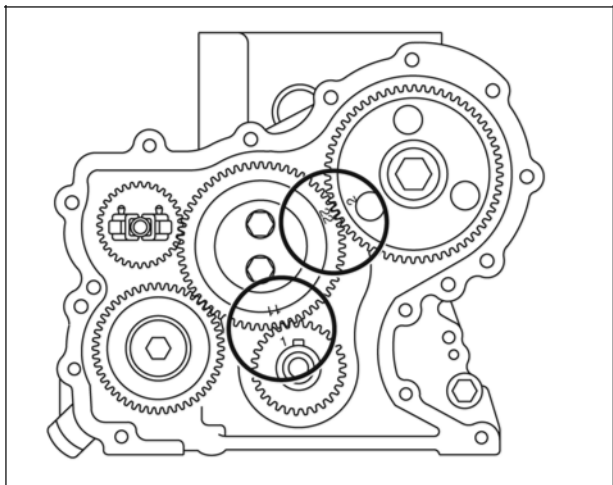

Figure 19
7. With crankshaft key at the 12 o'clock position, assemble idler gear so that timing mark **11 (AA)** is aligned with timing mark **1 (A)** on crankshaft gear, timing mark **22 (BB)** is aligned with timing mark **2 (B)** on camshaft gear (Figure 19).